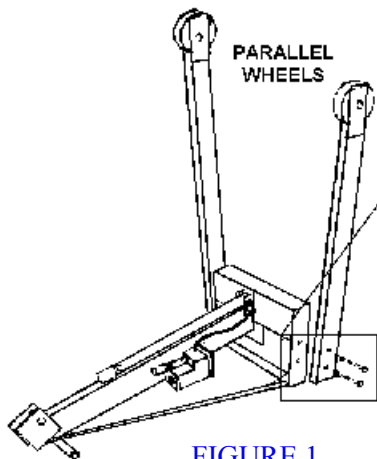

FIGURE 1
**Step #1:** Place tower on floor, push-handle down. See figure 1.
**Step #2:** Attach each leg (item 4) using two 3/8-16x3" grade 5 bolts (item 2), flat washers (item 3), and lock nuts (item 13) as shown. Wheels should be parallel when assembled properly. See figures 1 & 2.